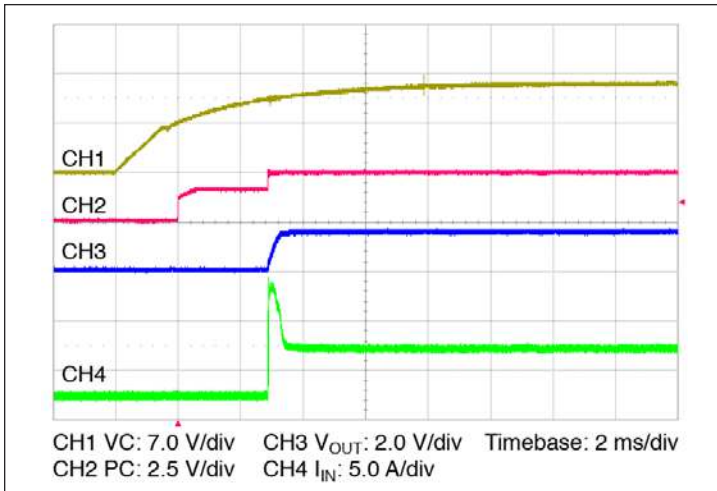

Figure 11 – Start up from application of VC; VIN pre-applied
- Stand-alone operation (VC applied after VIN): In this case the VTM output will begin to rise upon the application of the VC voltage (See Figure 11). The Adaptive Soft Start Circuit (See Section 11) may vary the output rate of rise in order to limit the inrush current to its maximum level. When starting into high capacitance, or a short, the output current will be limited for a maximum of 120 μ/sec. After this period, the Adaptive Soft Start Circuit will time out and the VTM module may shut down. No restart will be attempted until VC is re-applied or PC is toggled. The maximum output capacitance is limited to 9100 μF in this mode of operation to ensure a successful start.